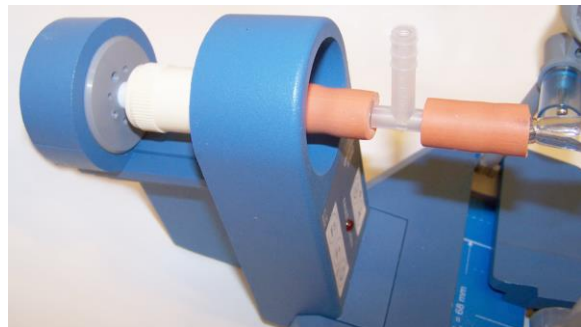

Fig. 4
- Connect the vent valve to the T-connector using a short hose and use the second short hose to connect the connector to the glass tube. Insert the vent valve into the central hole in the tube holder (see Figs. 4 and 5).